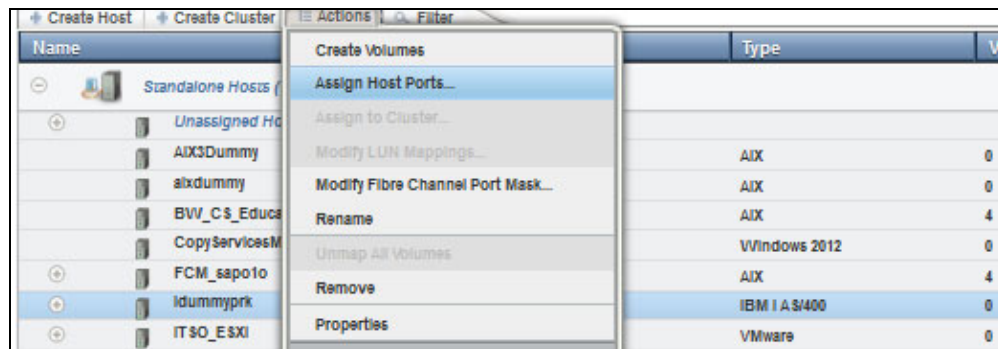

Figure 11-76 Assign Host Ports
- From the Hosts window, select the host to which to assign the host port. Either right-click, or from the **Actions** tab, select **Assign Host Port**, as shown in Figure 11-76.